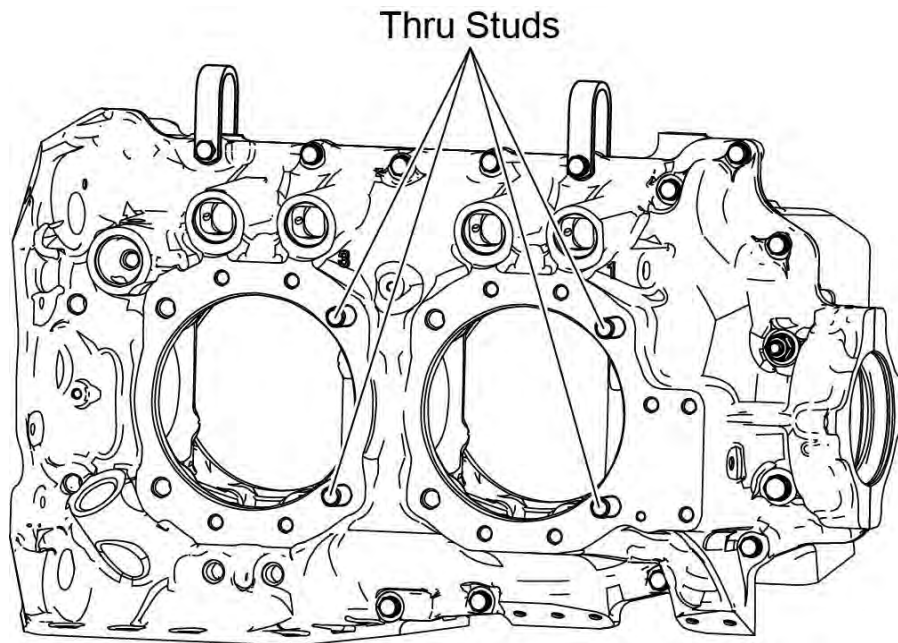

Figure 74
- (9) Lubricate each crankcase thru-stud with the specified lubricant identified in the latest revision of Service Instruction No. SI-1029.
- (10) Install all of the thru-studs in the crankcase with a thru-stud driver ST-317. Refer to Figure 74.
- (11) To ensure uniform loading on the main bearings, torque the anchored thru-studs and the free thru-studs in sequence, beginning at the center of the crankcase and then progressing alternately to the rear and front of the engine.